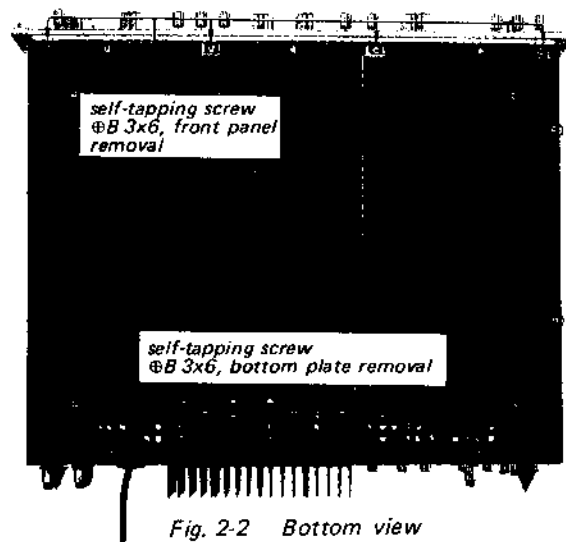

Fig. 2-2 Bottom view
2. Remove the ten self-tapping screws (⊕ B 3x6) at the bottom of the receiver (see Fig. 2-2) and pull the bottom plate in the direction indicated by the arrow in Fig. 2-2.
4. Remove the four self-tapping screws (\oplus B 3 \times 6) at the front bottom of the chassis as shown in Fig. 2-2. This frees the front panel.